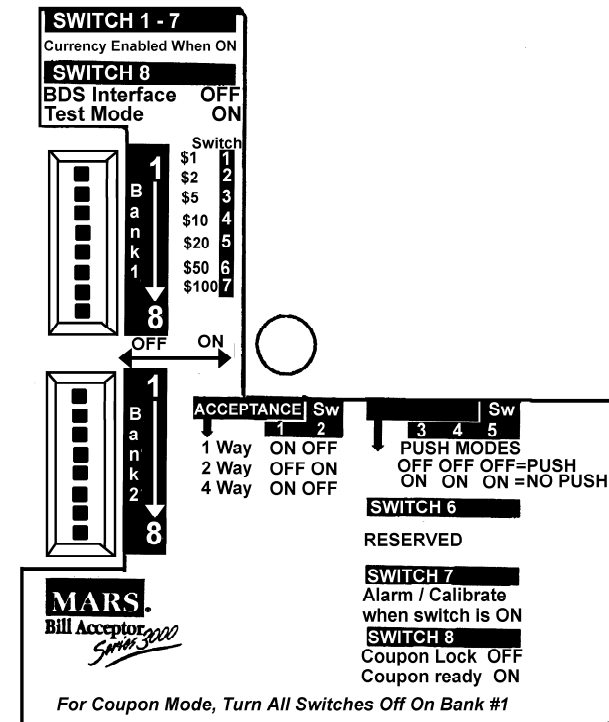

Figure 3. Setting The Option Switches
- Option switches are shown on the side of the unit (**See Figure 3**).